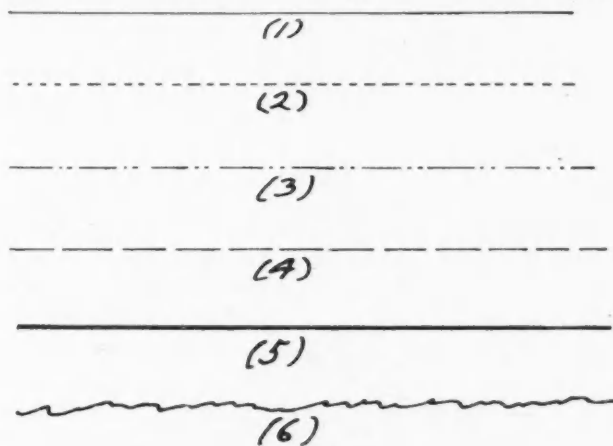

Fig. 1
At Fig. 1 is shown six different lines used in drawing; each one plays its own part and should never be used out of its proper place. Line (1), the light full line, is the one mostly used, being used to outline all pieces and objects on either the plans, elevations, sections or details that can be seen with the eye.